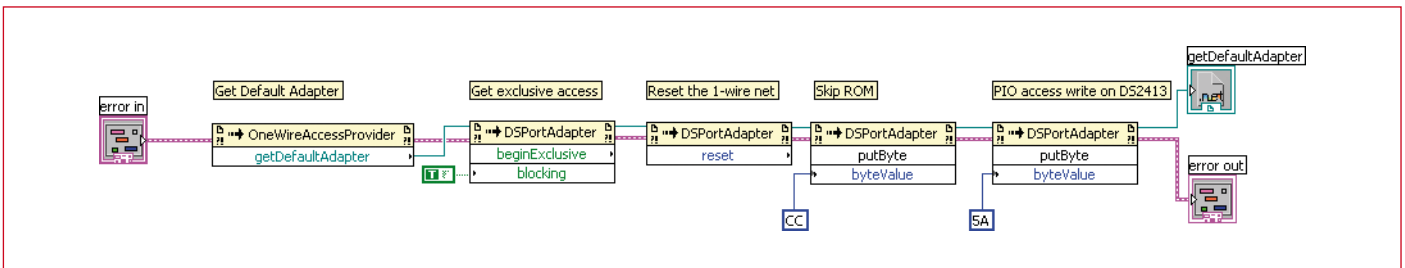

Figure 3. The Virtual Instrument called 'I²C Initialize' initializes the DS2413, after which it is ready to receive I/O data.
The LabVIEW Virtual Instrument (VI) 'I²C Initialize' (Figure 3 displays the block diagram) initializes the DS2490 and gives LabVIEW exclusive access to